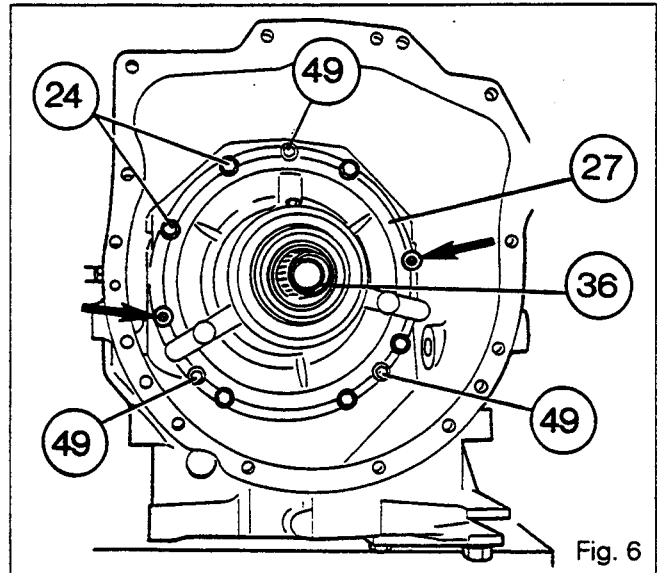

Fig. 6
**3378004M1 - Sleeve (Fig. 6)**
4. Unscrew bolts (24) (Fig.6).
5. Screw two pilot pins into the gearbox housing in diametrically opposed positions (Fig.6).
6. Unscrew the three bolts (49) a little at a time, taking them in order (Fig.6).
7. Remove cover (27) together with shaft (36) (Fig.6). Discard O-rings (1) and (2), (19).
8. Take out disc (21), pressure plate (20), Belleville spring disc (18) and planetary carrier assembly (50).